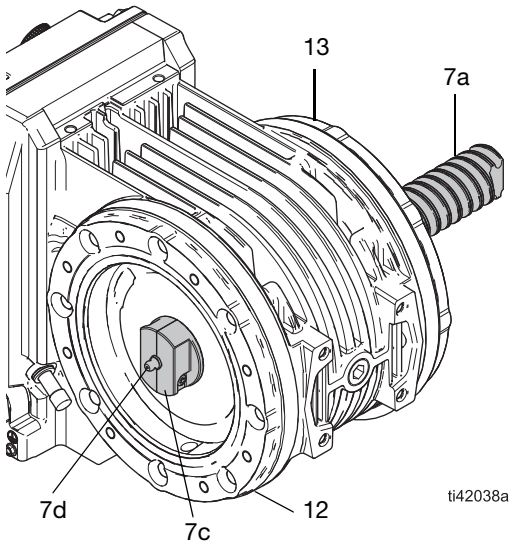

FIG. 23: Rotor Greasing Tool
4. Turn the rotor greasing tool into the center of the rotor (7) until the shaft (7a) fully protrudes from the load-side stator cap (13). See FIG. 23.